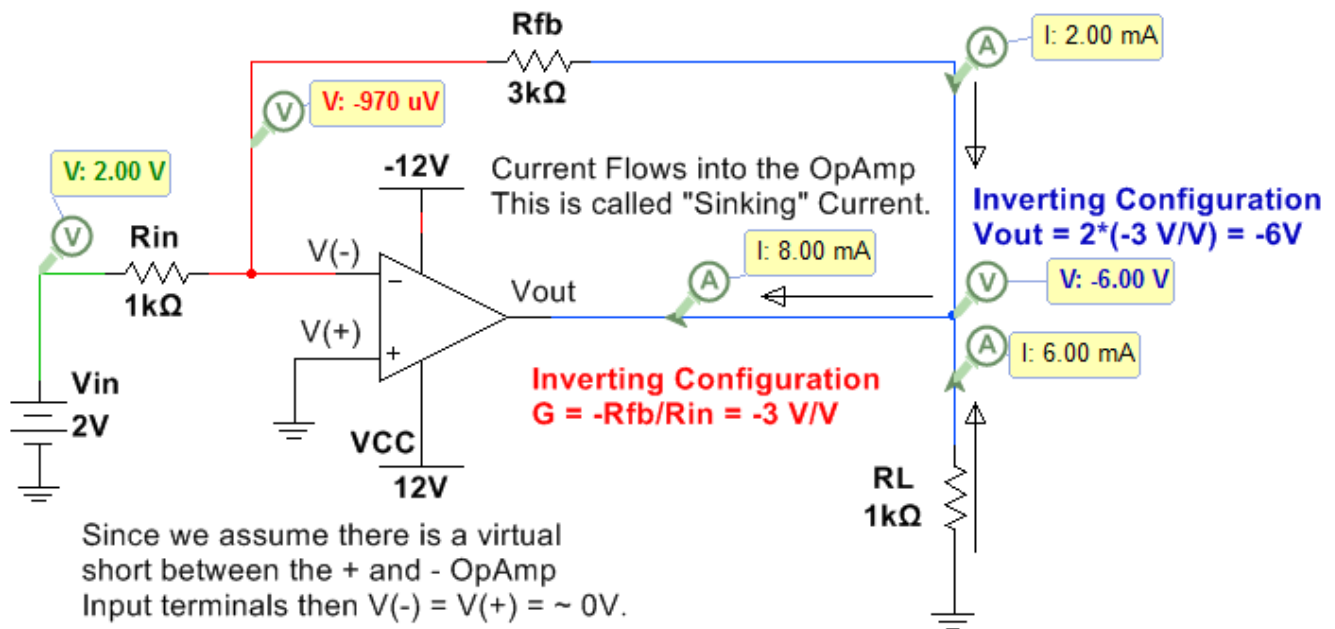
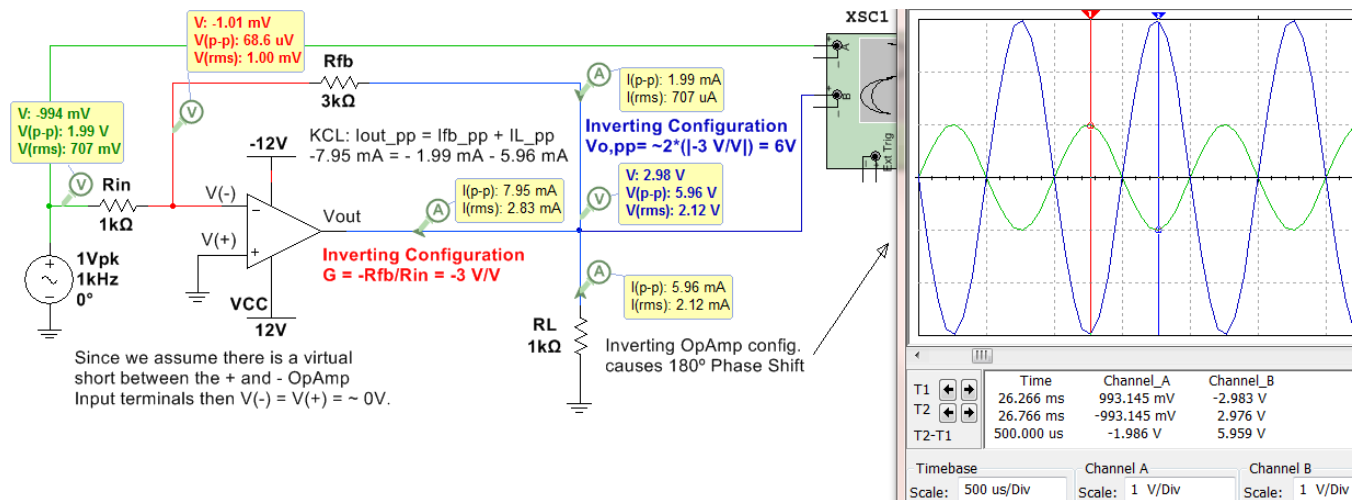
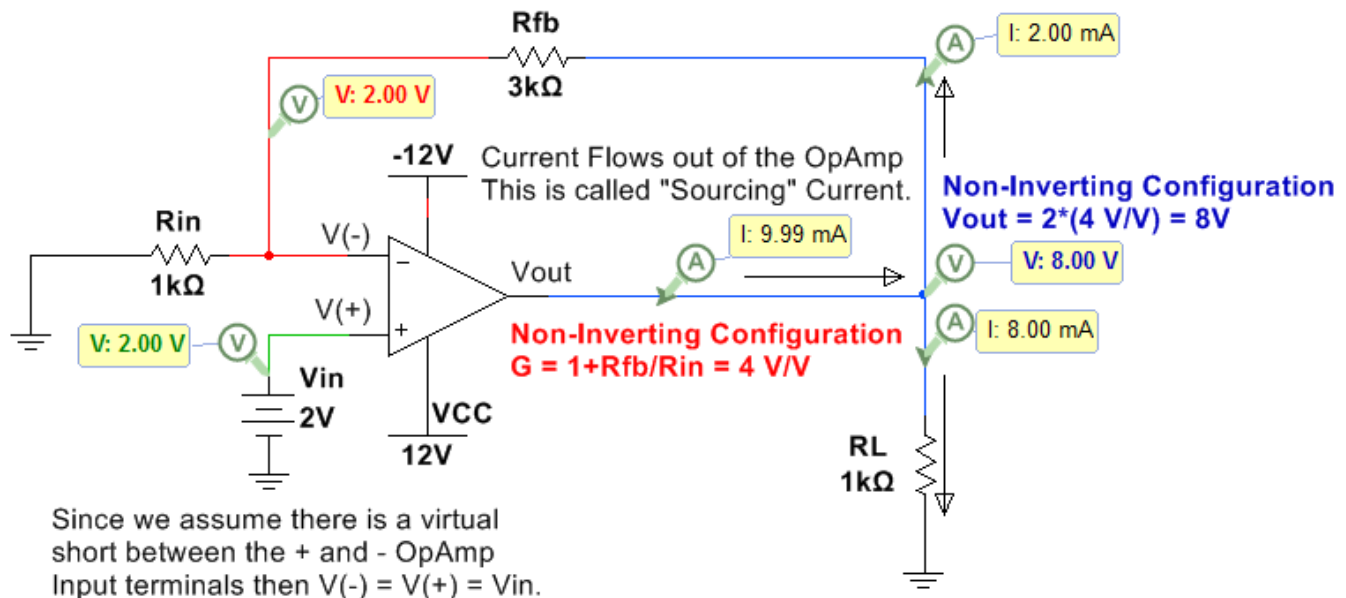
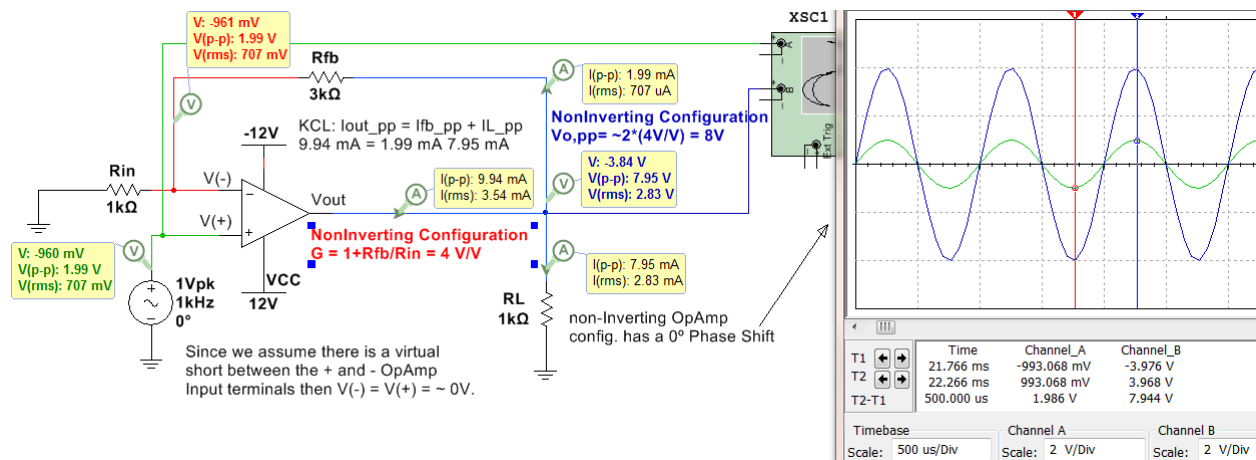

Figure 7.13: Inverting Configuration with a DC input.
Figure 7.14: Inverting Configuration with an AC input.
Figure 7.15: Non-Inverting Configuration with a DC input.
Figure 7.16: Non-Inverting Configuration with an AC input.
- **Inverting Configuration:** If the input voltage is connected the in input resistance (R_{in}) that is connected to the inverting (-) terminal of the OpAmp it is called the “inverting configuration”. An example with a DC input is shown in Figure 7.13 and an example with an AC signal is shown in Figure 7.14. The closed loop gain equations for an inverting OpAmp are shown in 7.2 and 7.3.
- **Non-Inverting Configuration:** If the input voltage is connected to the in non-inverting input terminal (+) of the OpAmp it is called the “non-inverting configuration”. An example with a DC input is shown in Figure 7.15 and an example with an AC signal is shown in Figure 7.16.
The inverting OpAmp configuration is shown in Figure 7.13 (DC input) and Figure 7.14 (AC input).
In the circuit below the instantaneous voltage values (top numbers) are also shown so you can see that at that moment in time the circuit behaves exactly like the DC circuit in Figure 7.13 ($V_{out} = -.994\text{V} \cdot (-3 \text{ V/V}) = 2.98 \text{ V}$).
Since the virtual OpAmp in Figure 7.14 has a fixed A_0 of 200,000 V/V regardless of the input frequency the ideal gain in Equation 7.2 matched closely with the Multisim measurements. If an actual OpAmp were used (like the LM324) the gain would be reduced due to the increase in frequency that results in a finite A_0 . For this same reason, Multisim also matches the Non-inverting OpAmp configuration circuit with an AC input in Figure 7.16.
The non-inverting OpAmp configuration is shown in Figure 7.15 (DC input) and Figure 7.16 (AC input).